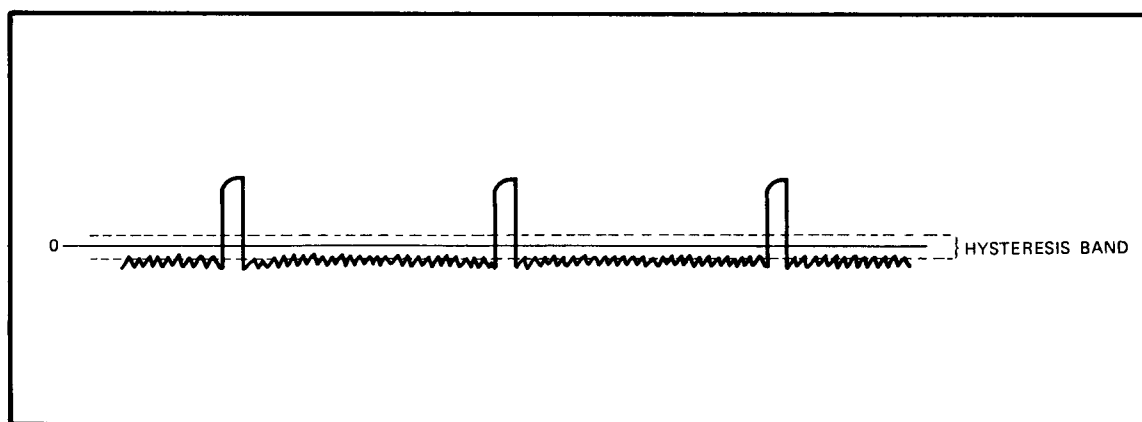
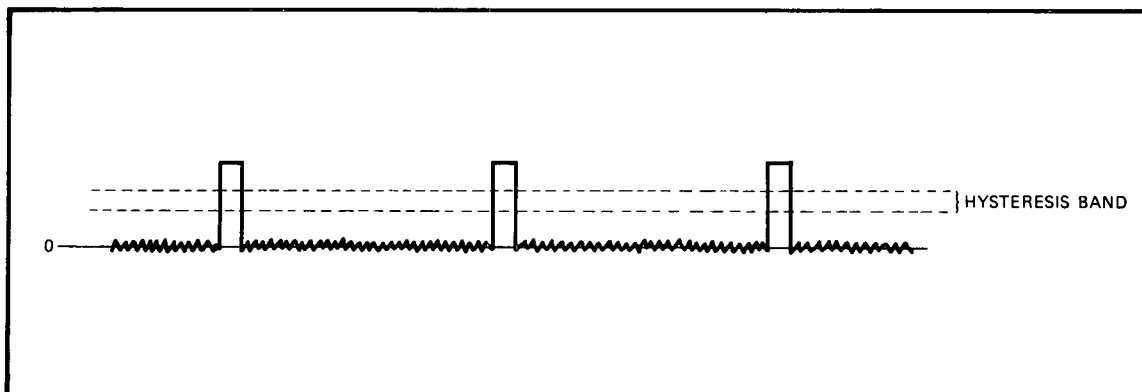

Figure 3-7. AC Coupled Measurements
Figure 3-8. DC Coupled Measurements
2. For asymmetrical waveforms (pulse trains, TTL, ECL signals, ramps, etc.) use a combination of dc coupling, Trigger Level, and fixed attenuator. AC coupling these types of signals tends to distort them slightly, due to the charging of the capacitor. More important, the position of the signal on the zero preset trigger level is determined by the average dc level of the input. Depending on the pulse width and duty cycle, this dc average may be low enough to allow the base line noise to trigger the counter, producing false counts (see Figure 3-7). DC coupling fixes the dc level of the input signal, which allows the adjustable Trigger Level to be positioned at the optimum point. Set the Trigger Level control to the approximate center of the triggering range indicated by the trigger light (see Figure 3-8) The actual dc trigger level may be monitored at the front panel test point. When programming via the HP-IB, it may be set directly.